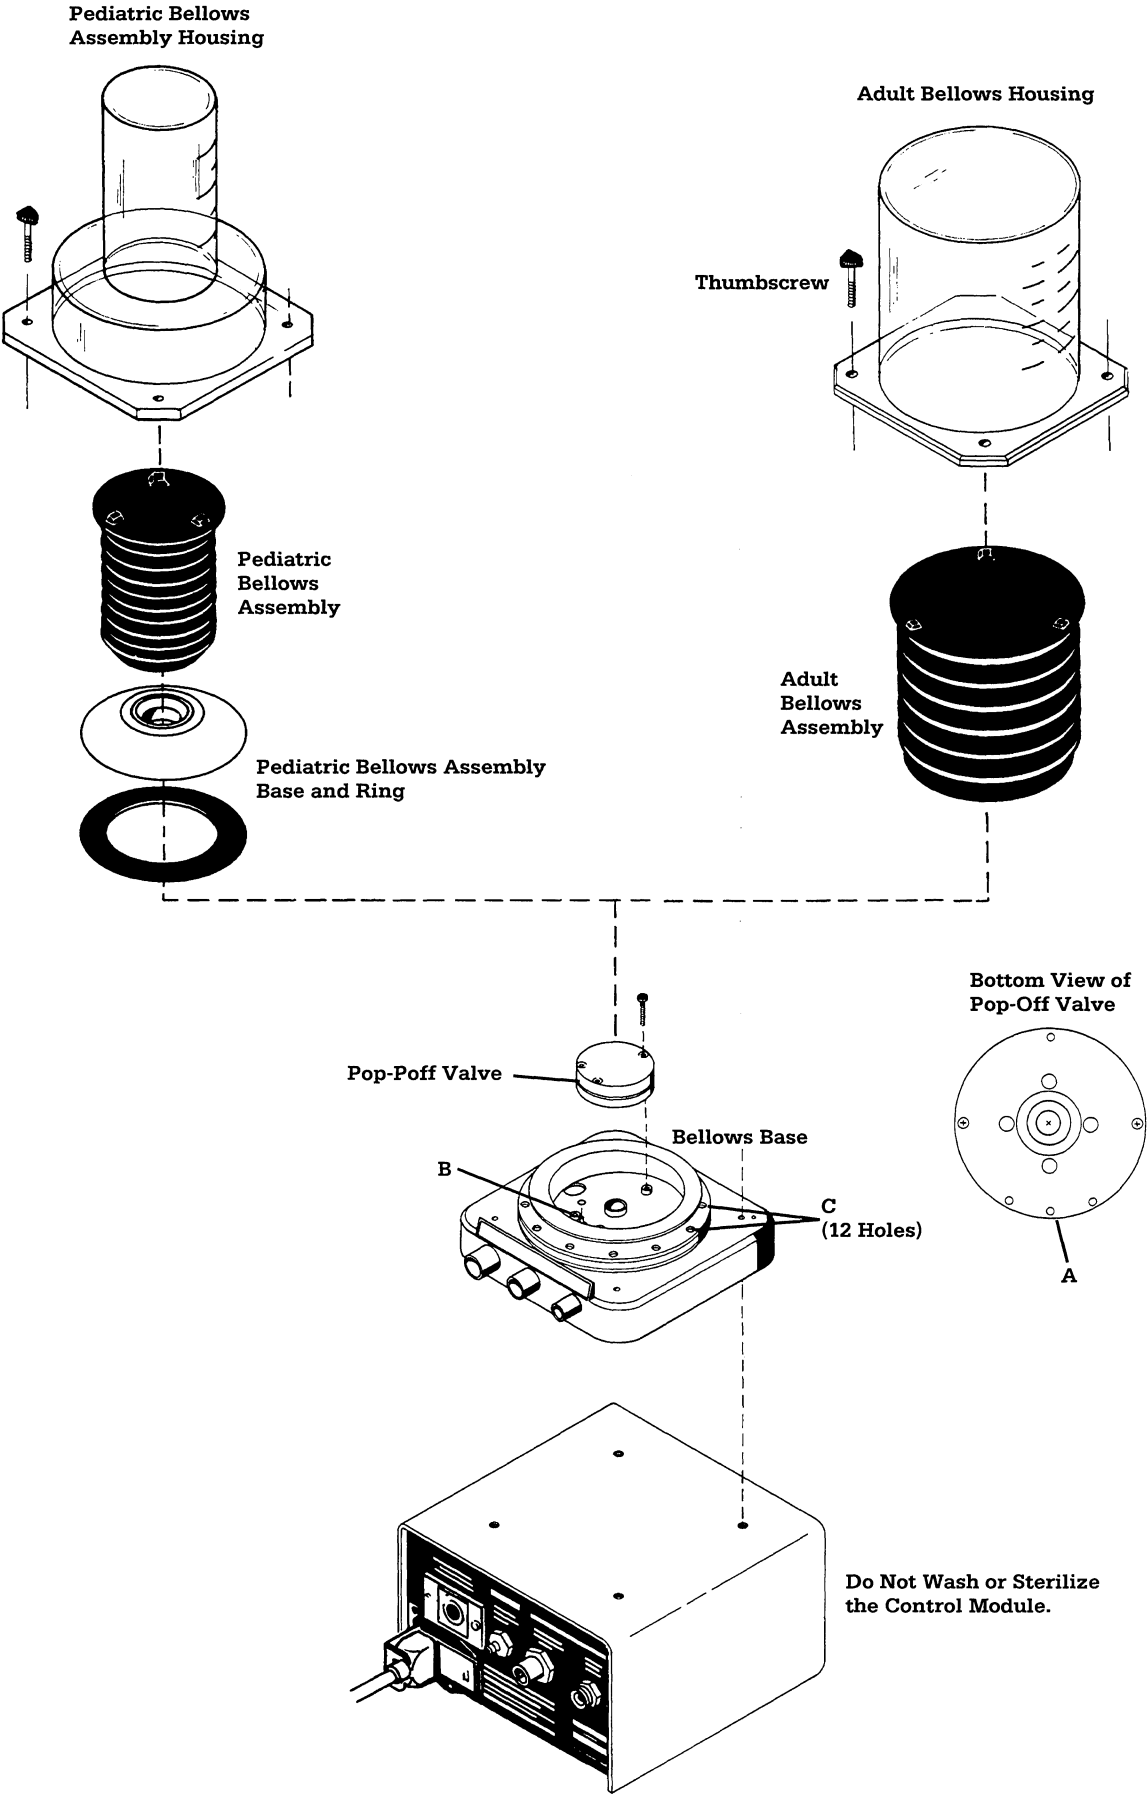

Figure 4-15
3. Use Figure 4-15 as a guide for further disassembly.
Except for the control module, those parts shown in Figure 4-15 may be washed with a mild soap and water solution. Make sure to dry the parts thoroughly.
- d. Do not submerge the Pop-off Valve. Liquids can become trapped within the valve. Clean the exterior surfaces with a soft cloth dampened in a solution of warm water and mild liquid detergent. Do not allow liquid to enter the Drive Gas Port (see Figure 4-15 Port "A"). Rinse the cloth in clean cold water and wipe the valve to remove all soap. Dry thoroughly before use and before sterilization.
⚠WARNING: Liquids or any foreign material trapped within the driving gas circuit of the Pop-off Valve (Port "A", Figure 4-15) and Bellows Base (Port "B" and Ports "C", Figure 4-15) can impair operation of the Pop-off Valve. Do not use the Pop-off Valve or Bellows Base if this is suspected. If complete disassembly is required to remove trapped foreign material, perform Pop-off Valve Perform-
⚠ WARNING: Liquids or any foreign material trapped within the driving gas circuit of the Pop-off Valve (Port "A", Figure 4-15) and Bellows Base (Port "B" and Ports "C", Figure 4-15) can impair operation of the Pop-off Valve. Do not use the Pop-off Valve or Bellows Base if this is suspected. If complete disassembly is required to remove trapped foreign material, perform Pop-off Valve Performance Test (see Section 3.2) and Bellows Assembly Leak Test (see Section 3.3) before reuse.